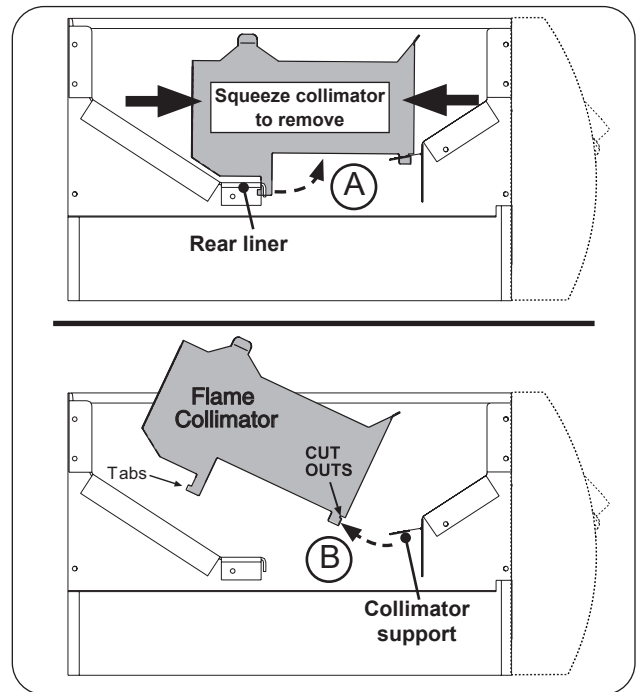

Fig. 37-2 Flame collimator removal
2. Squeeze the collimator to detach the rear tab from the rear liner as shown in Fig. 37-2, A, and lift up the rear portion of the collimator.
3. Detach the collimator from the front collimator support and completely remove the collimator as shown in Fig. 37-2, B.